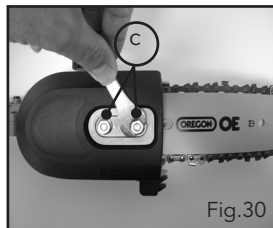

Fig.30
1. Loosen the two chain drive cover nuts (c) with small open-end spanner (20) (Fig. 30).